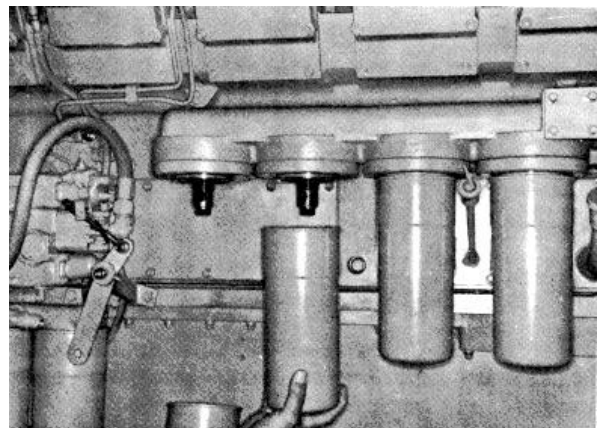

Fig. 2-16, (K21907). Installing "spin-on" lubricating oil filter - KT(A)-2300 Engine
3. Position element to the filter head, Fig. 2-16. Tighten by hand until the seal touches the filter head, tighten an additional one-half to three-fourths turn.